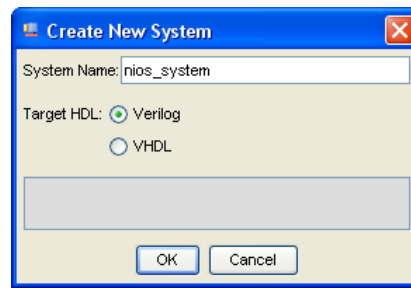
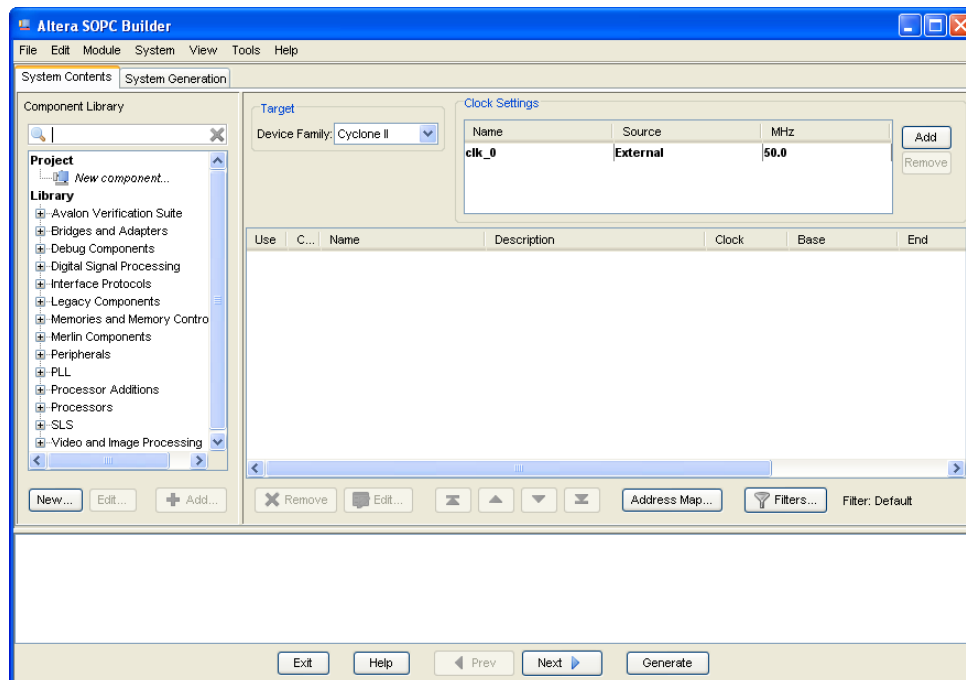
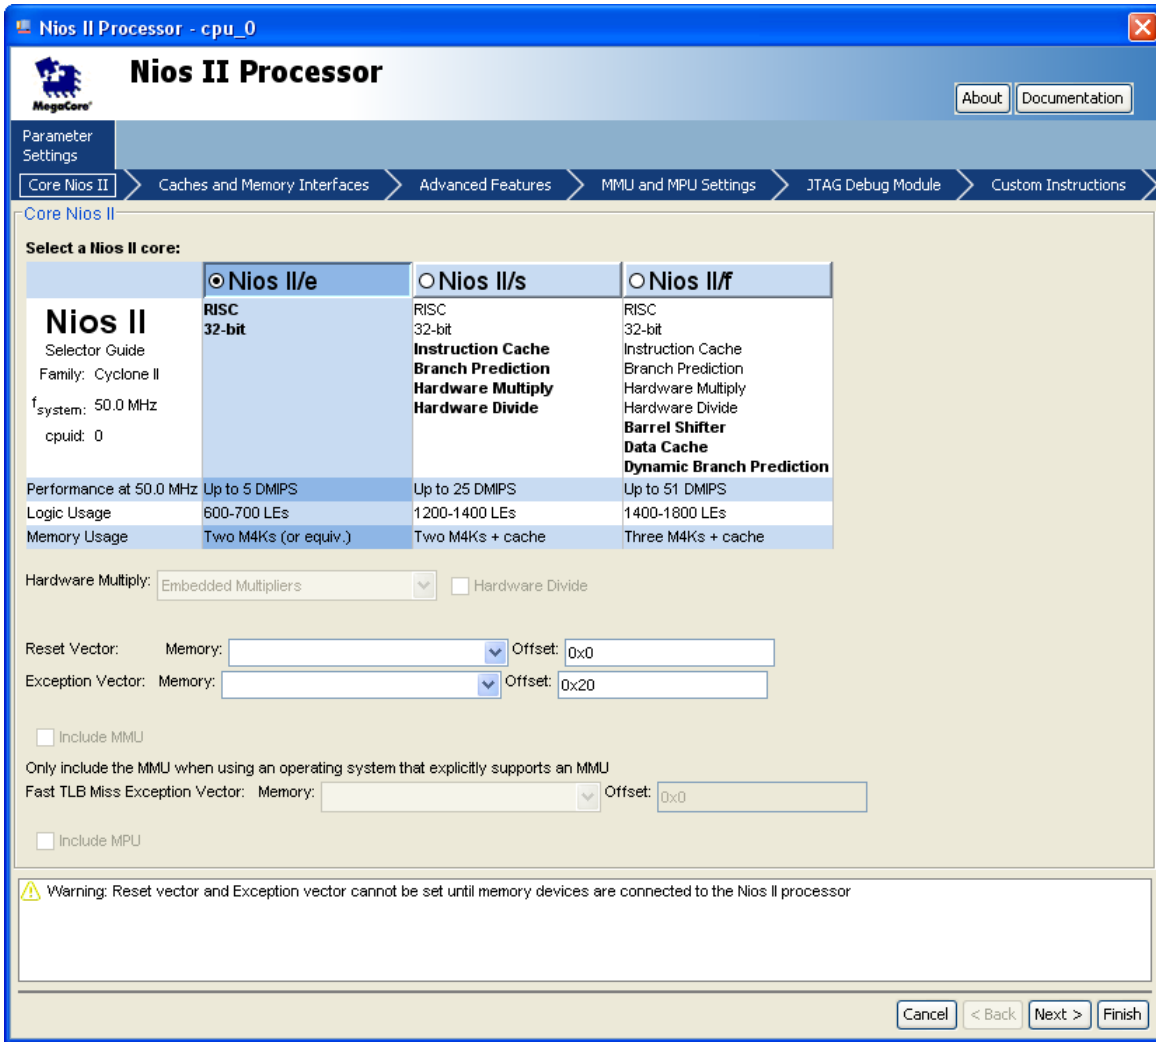
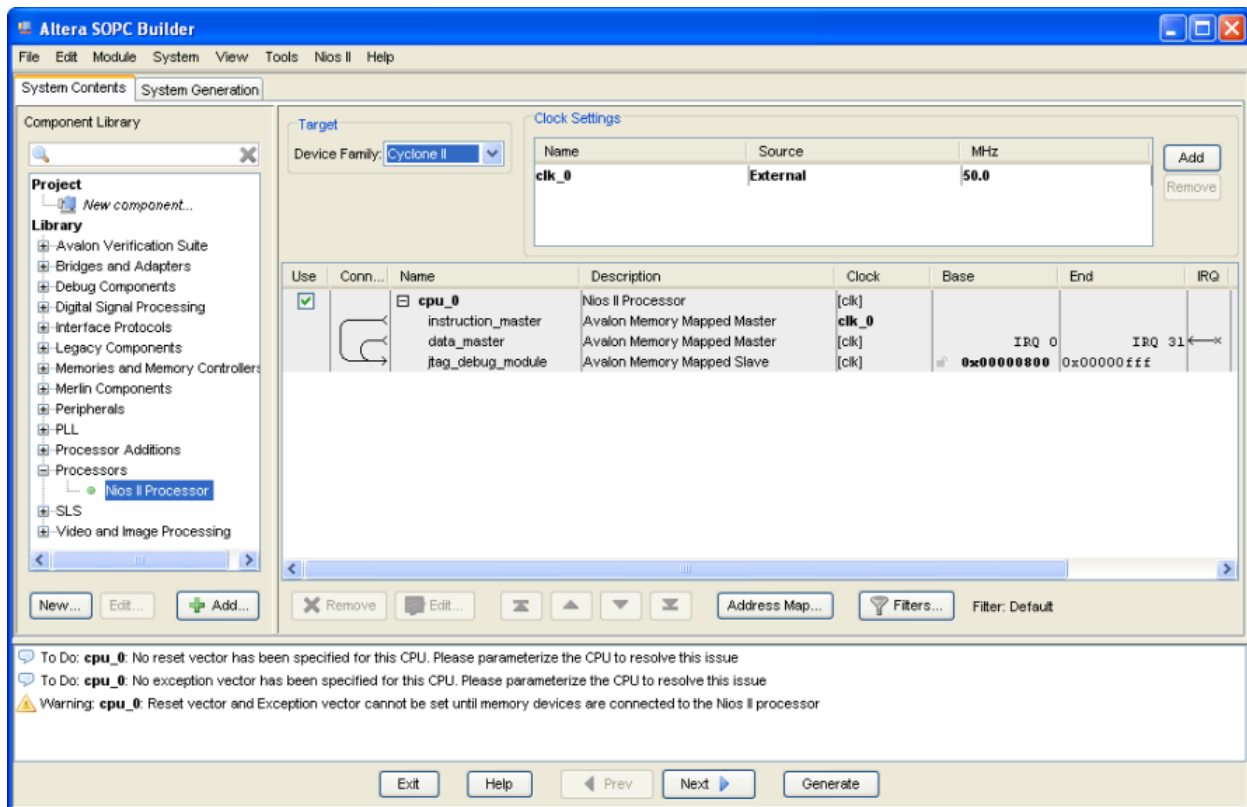

Figure 4. Create a new Nios II system.
Figure 5. The System Contents tab window on a DE-series board.
Figure 6. Create a Nios II processor.
Figure 7. The defined processor on a DE-series board.
2. Select Tools > SOPC Builder, which leads to the pop-up box in Figure 4. Enter *nios\_system* as the system name; this will be the name of the system that the SOPC Builder will generate. Choose Verilog as the target HDL, in which the system module will be specified. Click OK to reach the window in Figure 5. Quartus may recommend you to use Qsys. Click OK to proceed.
- Figure 5 displays the System Contents tab of the SOPC Builder, which is used to add components to the system and configure the selected components to meet the design requirements. The available components are listed on the left side of the window. Before choosing our components, examine the area in the figure labeled Target. Check the setting for the Device Family and ensure that the correct family is selected for the DE-series board. Table 1 lists the device families associated with DE-series boards.
- The Nios II processor runs under the control of a clock. For this tutorial we will make use of the 50-MHz clock that is provided on the DE-series board. As shown in Figure 5, it is possible to specify the names and frequency of clock signals in the SOPC Builder display. If not already included in this list, specify a clock named *clk\_0* with the source designated as External and the frequency set to 50.0 MHz.
- On the left side of the window in Figure 5 expand Processors, select Nios II Processor and click Add, which leads to the window in Figure 6.
- Choose Nios II/e which is the simplest version of the processor. Click Finish to return to the window in Figure 5, which now shows the Nios II processor specified as indicated in Figure 7. There may be some warnings or error messages displayed in the SOPC Builder Messages window (at the bottom of the screen), because some parameters have not yet been specified. Ignore these messages as we will provide the necessary data later.